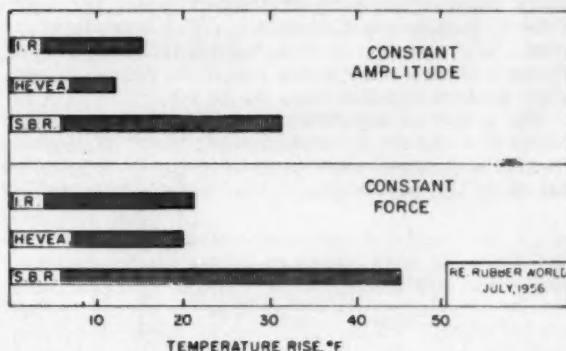

Fig. 4 — Heat build-up of isoprene rubber, Hevea, and SBR compounds as measured on a shear flexometer.
I. R. was developed for its low hysteretic properties without sacrificing the other desirable properties of true natural rubber. Fig. 4 shows a comparison of heat build-up for I. R., Hevea, and SBR on a shear flexometer. Hysteresis of I. R. is very nearly that of Hevea rubber and less than half that of SBR.